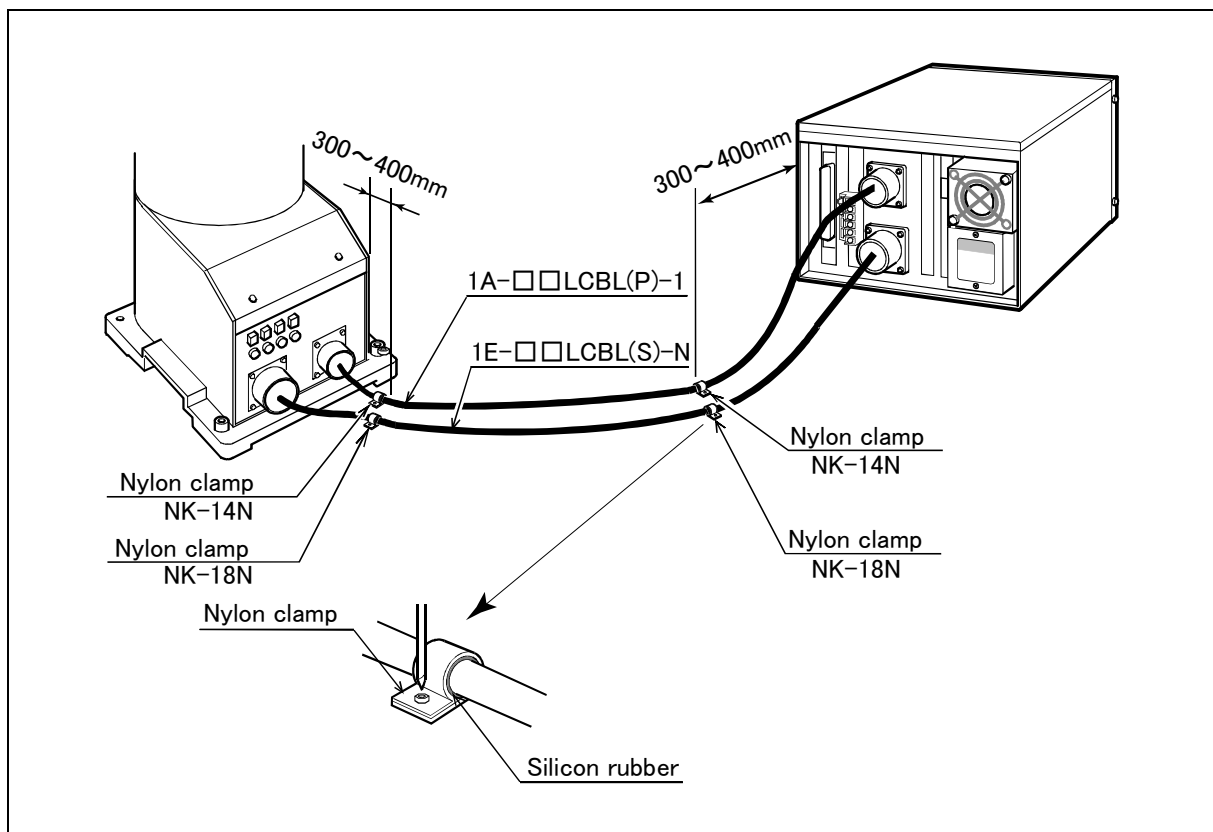

Fig.2-15 : Fixing the flexible cable
- (1) Connect the connector to the robot arm and controller.
- (2) Wind the silicon rubber around the cable at a position 300 to 400 mm from the robot arm and controller as shown in Fig. 2-15, and fix with the nylon clamp to protect the cable from external stress.